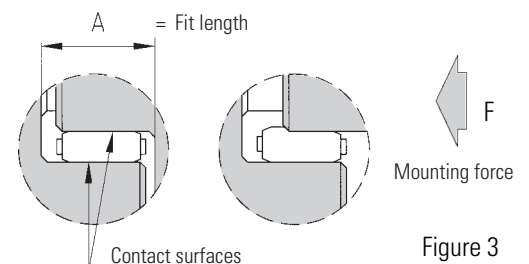

Figure 3
To achieve zero backlash the coupling hubs must be pressed together with an axial force (F) compressing the elastomer ring. Cleaning the elastomer ring and hubs and applying a light film of oil will aid in the assembly process. (Figure 3).